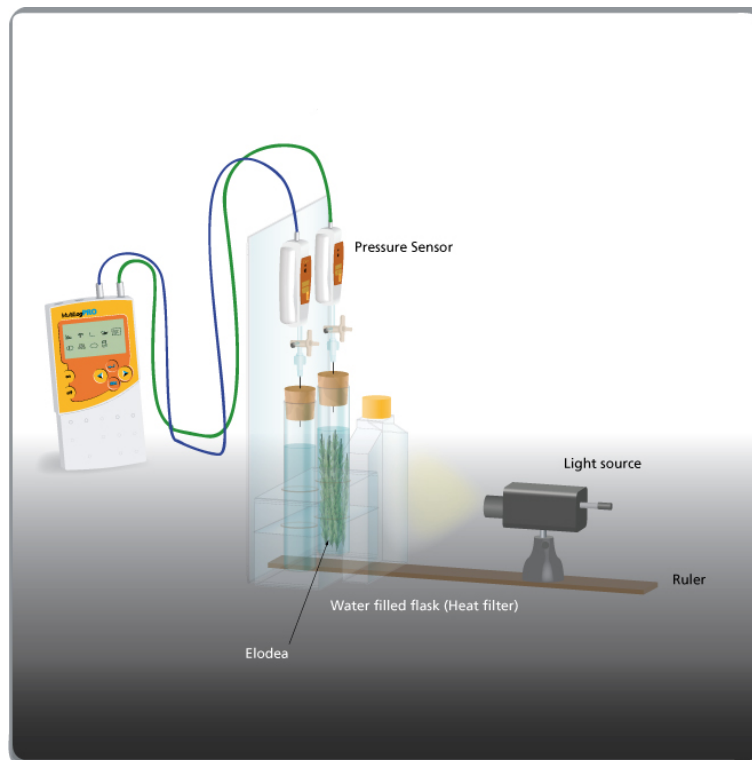

Figure 1
1. Assemble the equipment as shown in Figure 1
- h. Position the light source 25 cm from the glass tubes (see figure 1)